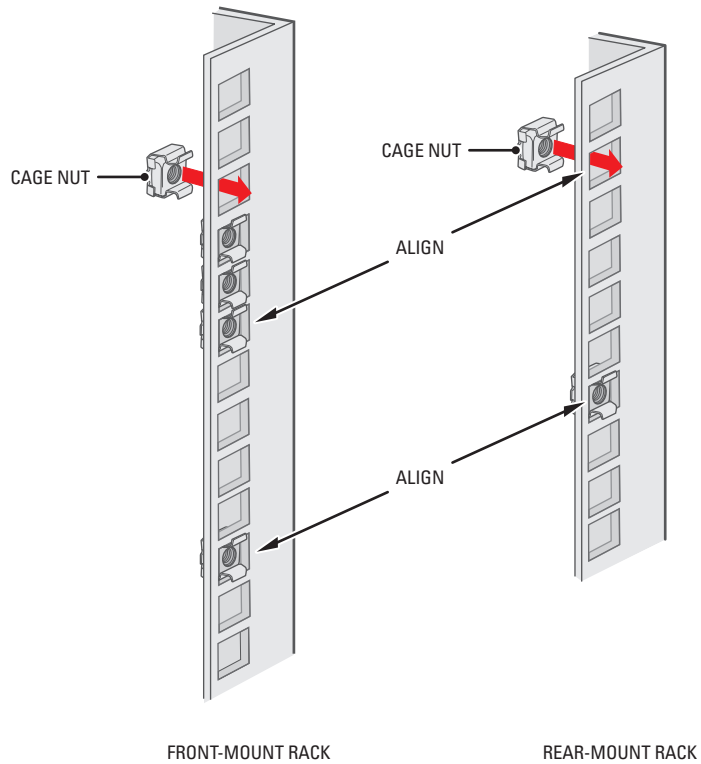

Figure 11. Inserting Cage Nuts
5. *If you are installing the unit into a square-hole rack:* Insert 14 cage nuts into the square-hole rack as shown in Figure 11. Align the bottom cage nuts on the front racks with the bottom cage nuts on the rear racks. Then align the top cage nuts with the front racks as shown.